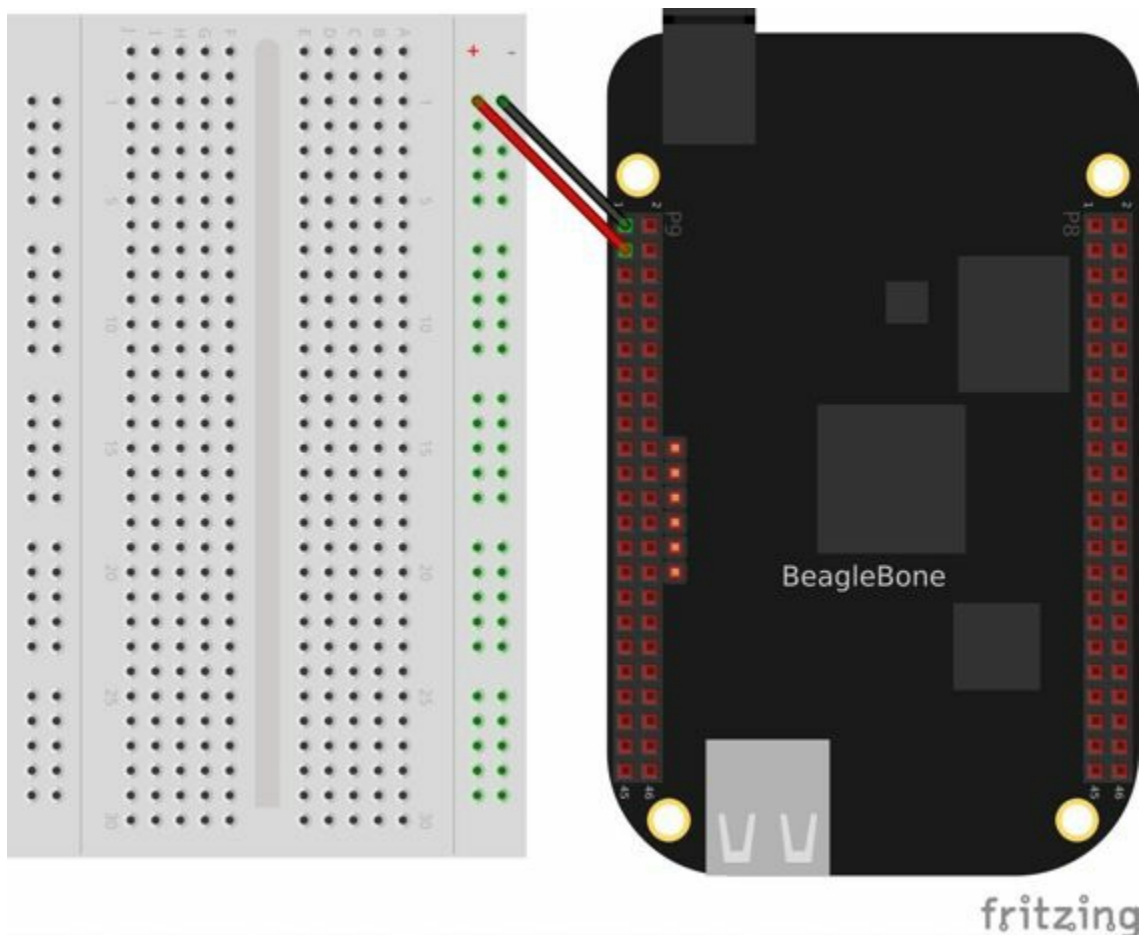

Figure P-1. Basic Fritzing setup
**Figure P-1** shows the basic setup used for all the diagrams in this book.